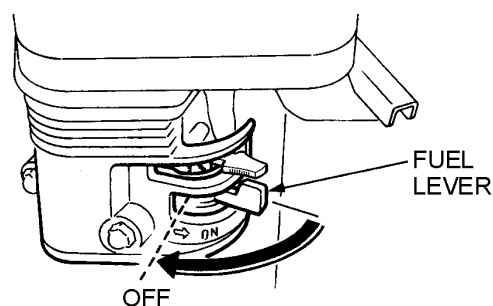

Figure 22. Fuel Valve Lever (OFF)
- Place the fuel shut-off lever (Figure 22) in the **"OFF"** position.